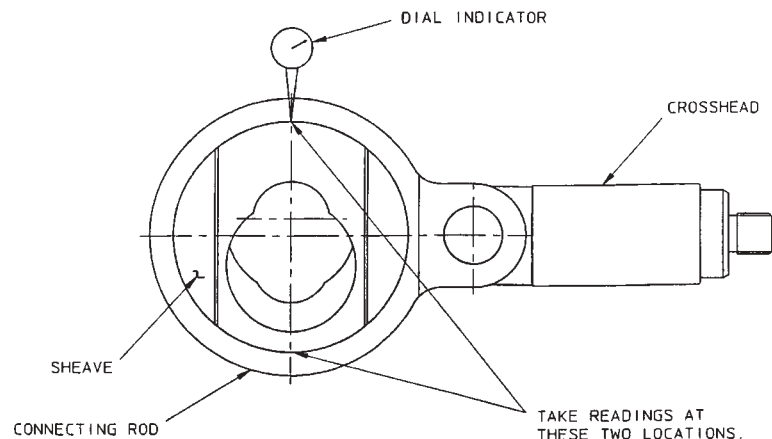

Figure 4-1. Eccentric Shaft Alignment
- c. Screw the carrier bearing (22) to the stroke adjust housing (25) up to the edge of the two holes for the detent pawls (52). Position the two holes so that they are horizontal.
- e. Continue to turn the carrier bearing (22) clockwise until it stops. The bearing (19) must be against the eccentric shaft (45) shoulder before tightening the screw (21) in step c, above.
- f. Set the stroke position to approximately zero by turning the carrier bearing (22) counterclockwise until it stops. Then rotate the carrier bearing one turn clockwise.
- g. Place a dial indicator with a magnetic base on top of the gearbox. Set the indicator shaft to indicate the eccentricity of the sheave (46), as shown in Figure 4-1.